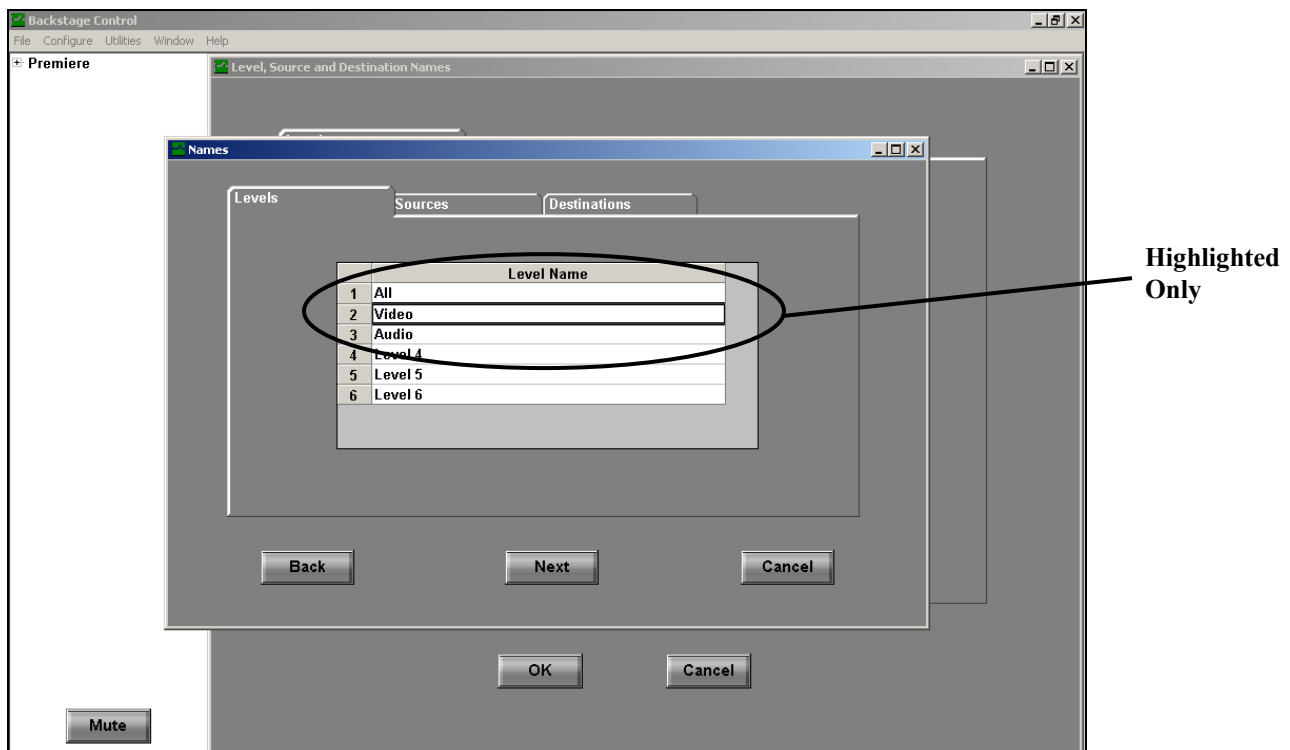

FIGURE 55: User Configuration Names Screen
Result: The following Names screen will display (See Figure 55).
- 10) The tabs (Levels, Sources, and Destinations) on the Names screen contain the listing of the associated names for the specific tab. Click on the tab selection and, if necessary, rewrite the names by double-clicking on the selection to place the cursor in the window/field (see Figure 55) and retype the desired name. If desired, repeat the sequence for the other tabs.